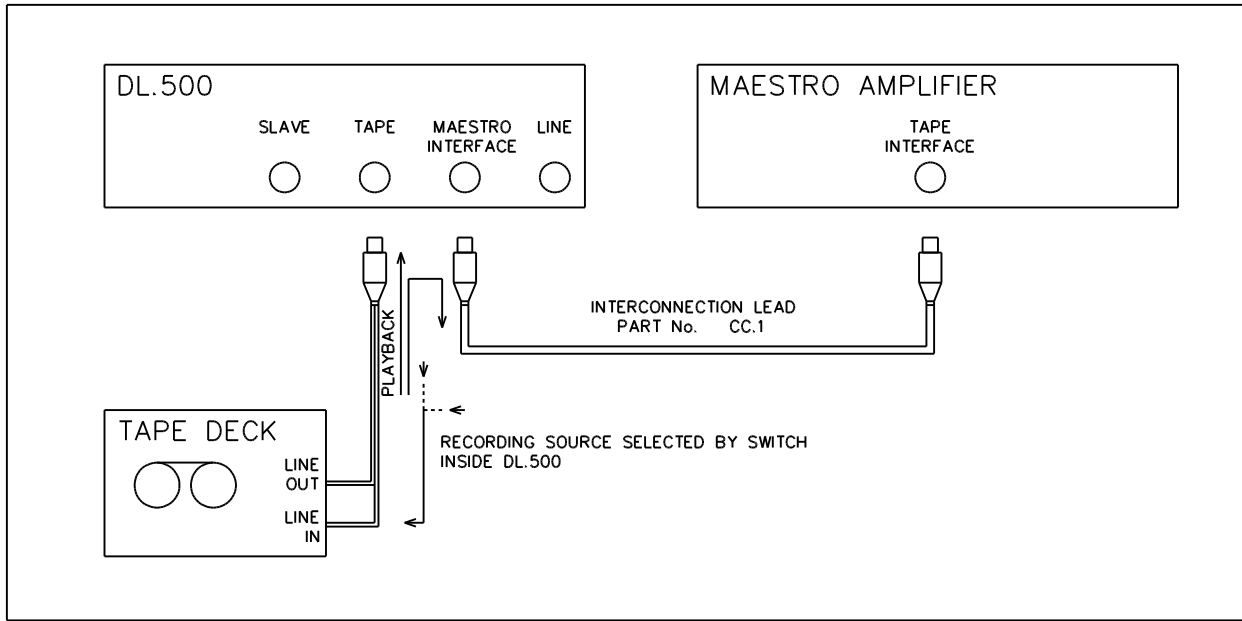
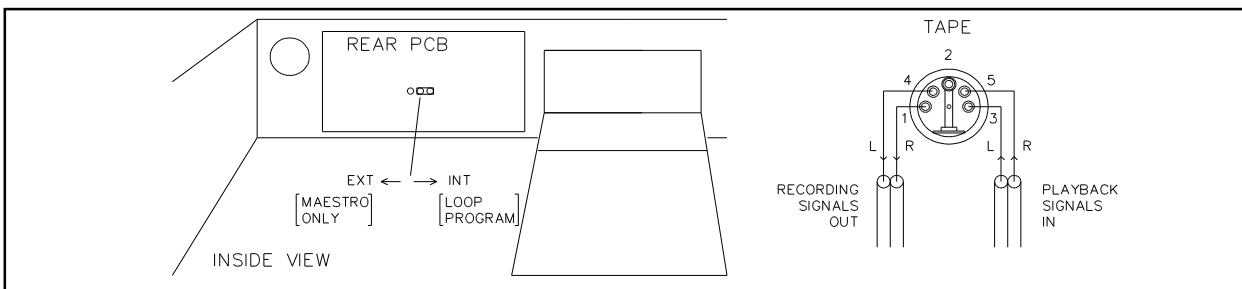

Fig. 4 Tape recording and playback arrangements - and the Maestro Interface
Fig. 5 Recording selector switch location & tape connection detail
By the use of a simple connector lead (optional extra part No. CC.1) between this dedicated socket and the Maestro 'Tape Interface' socket, all sound signals provided by the amplifier system will be passed automatically to the DL.500. Tape record/playback facilities will then be transferred to the DL.500 - see Fig. 4. See also page 12 - Using the DL.500 with a Maestro Amplifier system.
3. If the DL.500 is interconnected to a Maestro amplifier as described above, the amplifier's 'Tape Interface' connection is used. The DL.500 'Tape' connection fully replicates this facility. See Fig. 4 above. Further, by means of an internal switch (see Fig. 5 below) the recording source may be selected from either:-